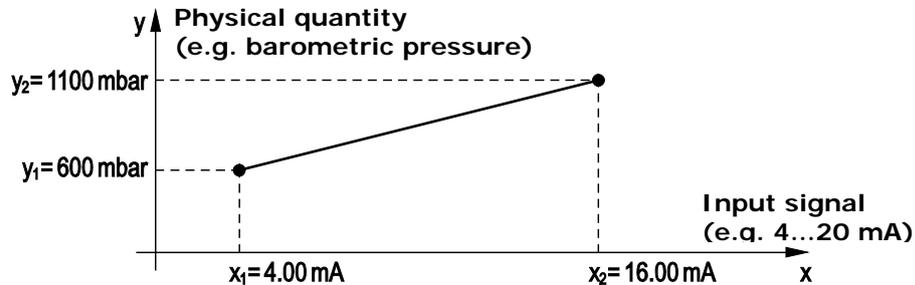

Fig. 13.6.1: example of association of a physical quantity to the acquired signal
3. Set the minimum value of the voltage or current signal (e.g. 4 mA, point X1 of the example at Fig. 13.6.1). Set the first digit using ▲ and ▼, then select the "-->" command (**F2** key) to move to the next digits (the currently selected digit flashes). To return to a previous digit, select the "<--" command (**F1** key). After setting all the digits, press **OK** (**F3** key) to confirm the value.
4. Set the maximum value of the voltage or current signal (e.g. 16 mA, point X2 of the example at Fig. 13.6.1). Set the first digit using ▲ and ▼, then select the "-->" command (**F2** key) to move to the next digits (the currently selected digit flashes). To return to a previous digit, select the "<--" command (**F1** key). After setting all the digits, press **OK** (**F3** key) to confirm the value.
- Set the minimum value of the physical quantity to be associated to the voltage or current values (e.g. 800, point Y1 of the example at Fig. 13.6.1). Set the first digit using ▲ and ▼, then select the "-->" command (F2 key) to move to the next digits (the currently selected digit flashes). To return to a previous digit, select the "<--" command (F1 key). After setting all the digits, press **OK** (F3 key) to confirm the value.
- Set the maximum value of the physical quantity to be associated to the voltage or current values (e.g. 1100, point Y2 of the example at Fig. 13.6.1). Set the first digit using ▲ and ▼, then select the "-->" command (F2 key) to move to the next digits (the currently selected digit flashes). To return to a previous digit, select the "<--" command (F1 key). After setting all the digits, press **OK** (F3 key) to confirm the value.